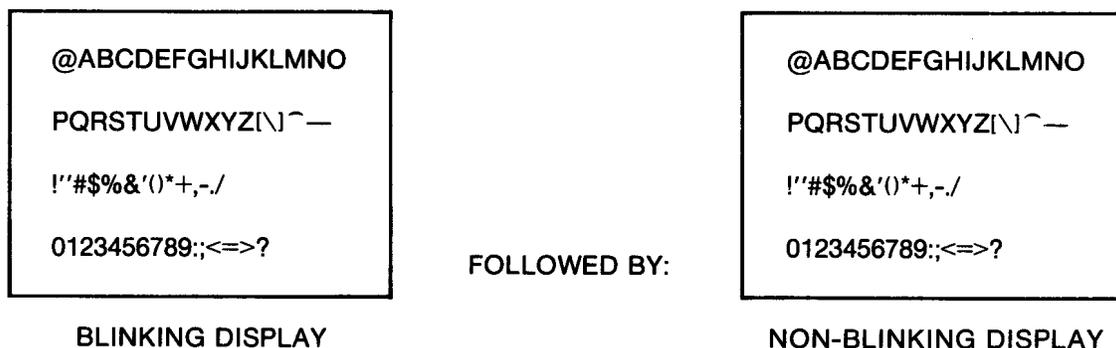

Figure 18, DTE Simulator and Automatic Test Station Test Message
- j) Enter TOUCH-TONE character #. This starts a test message from the simulator approximately two minutes in duration. The test pattern is run nine times before stopping. The first eight runs are exactly as shown in Figure 18. The last half of the ninth run is missing the final two characters of the bottom row. While the test message is in progress observe the terminal screen for correct character display and video monitor functions. Automatic disconnect will occur, depending upon data set time-out setting, approximately ten seconds after completion of the test message unless a TOUCH-TONE character other than # is entered.